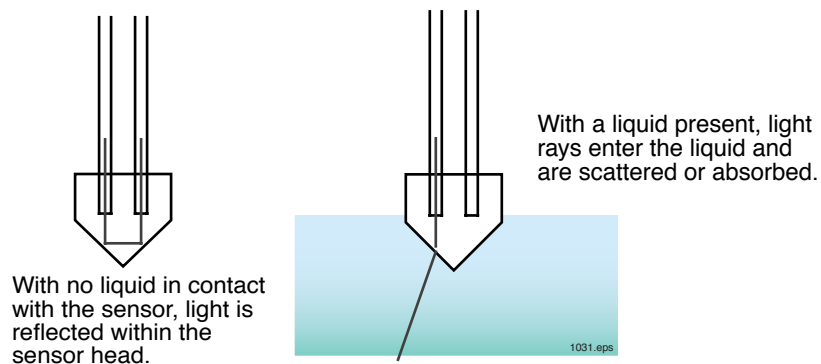

Figure 5. How a fiber optic sensor detects the presence of a liquid.
- *Fiber optic probes*, where an optical fiber transfers light to a sensing tip as shown in Figure 5.